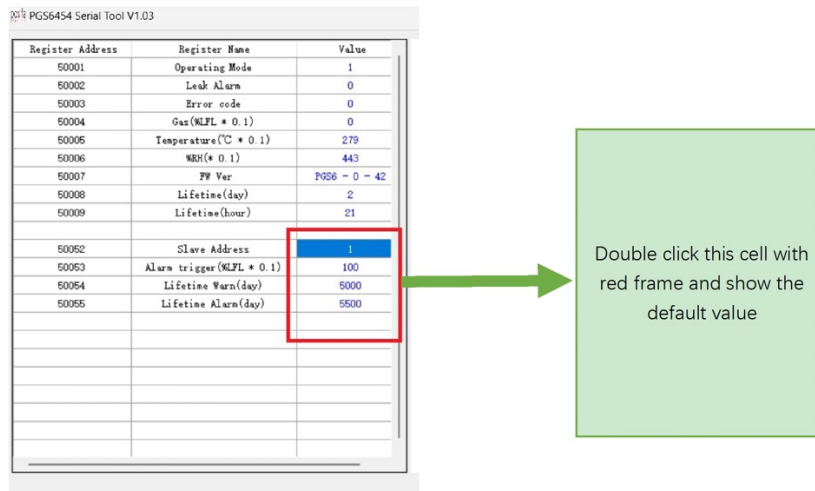

Figure 3
- Double click the cell with the red frame in Figure 3 and show the default value